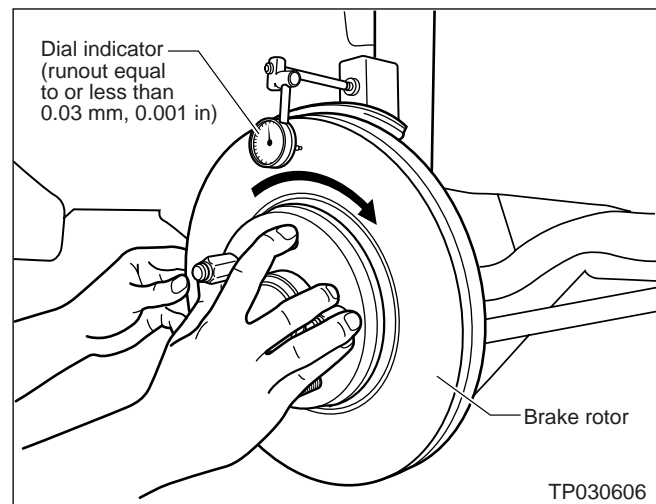

Figure 10
4. Measure rotor runout with a dial indicator (see Figure 10).